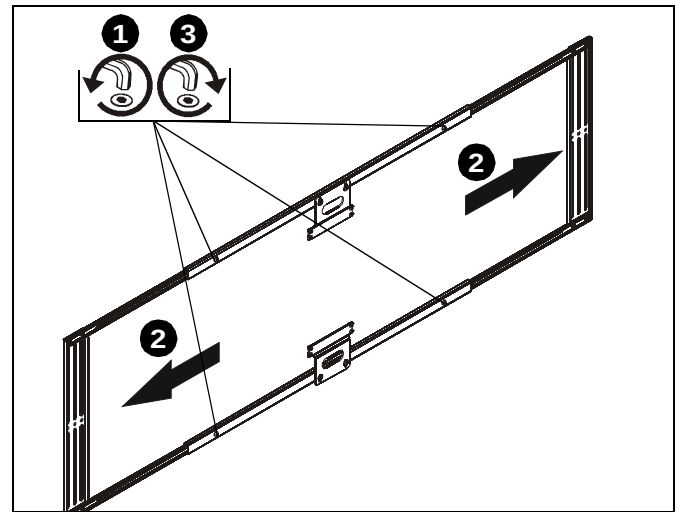

Figure 11
1. Loosen four extension adjustment screws on horizontal brackets. (See Figure 11)
2. Adjust speaker brackets to desired horizontal positions. (See Figure 11)
3. Tighten four extension adjustment screws when desired mounting position is reached. (See Figure 11)